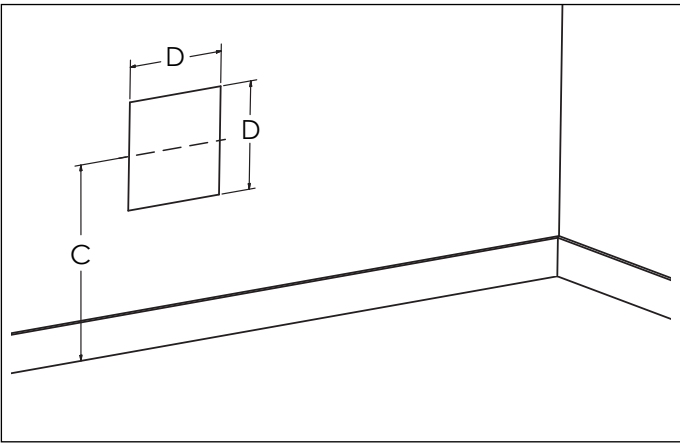

Figure 10
2. Draw the position of the hole for the air-vent intake pipe, taking into account the minimum clearances mentioned in Figure 6. See the dimensions of the square hole "D" and height to the center "C" in Table 1 and Figure 10 for the different models. Height "C" is the minimum recommended.